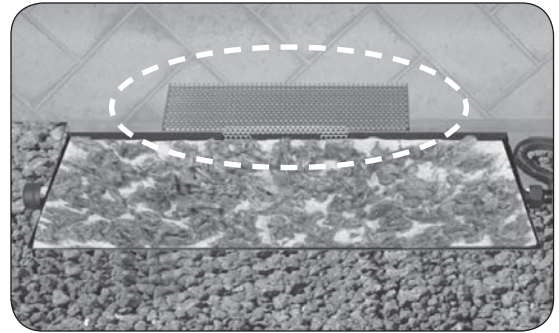

Fig. 12-1 Attach screen (if applicable)
1. Attach the ember screen to the burner by slipping it onto the back edge (center left to right) with the perforated section facing towards the back fireplace wall (Fig. 12-1).